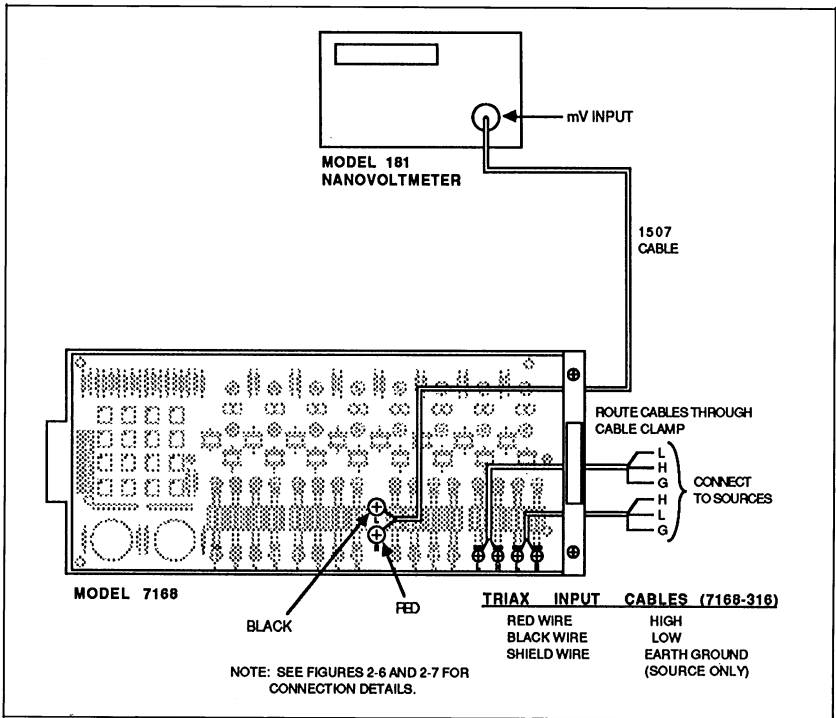

Figure 2-5. Typical Connections
Use the following general procedure to connect the card inputs and output. Figure 2-5 shows the card connected to a Model 181 Digital Nanovoltmeter and includes two input connections. Note that only copper wires and copper lugs should be used to minimize thermoelectric potentials.
7. Connect the opposite end of the Model 1507 cable to the mV input of the Model 181 Digital Nanovoltmeter, as shown in Figure 2-5.